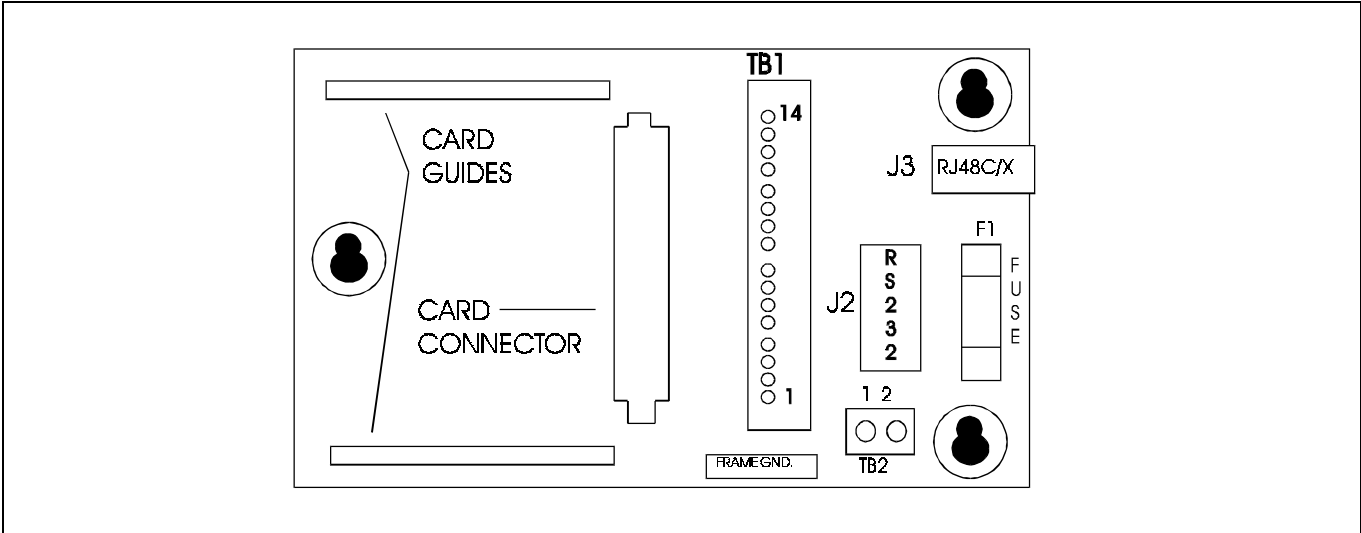

Figure 3. Component Locations.
8.01 Refer to the PairGain Technical Practice Section of the unit being installed 150-412-100 for complete instructions. The HRU card slides into the two card guides as shown in Figure 3. It should be seated firmly in the connector. Upon initial turn up, all LEDs will momentarily light. If all equipment is installed and working, and the DS1 signal is being transmitted, the system will cold start within about 15 seconds. No further action is required if all alarms clear.